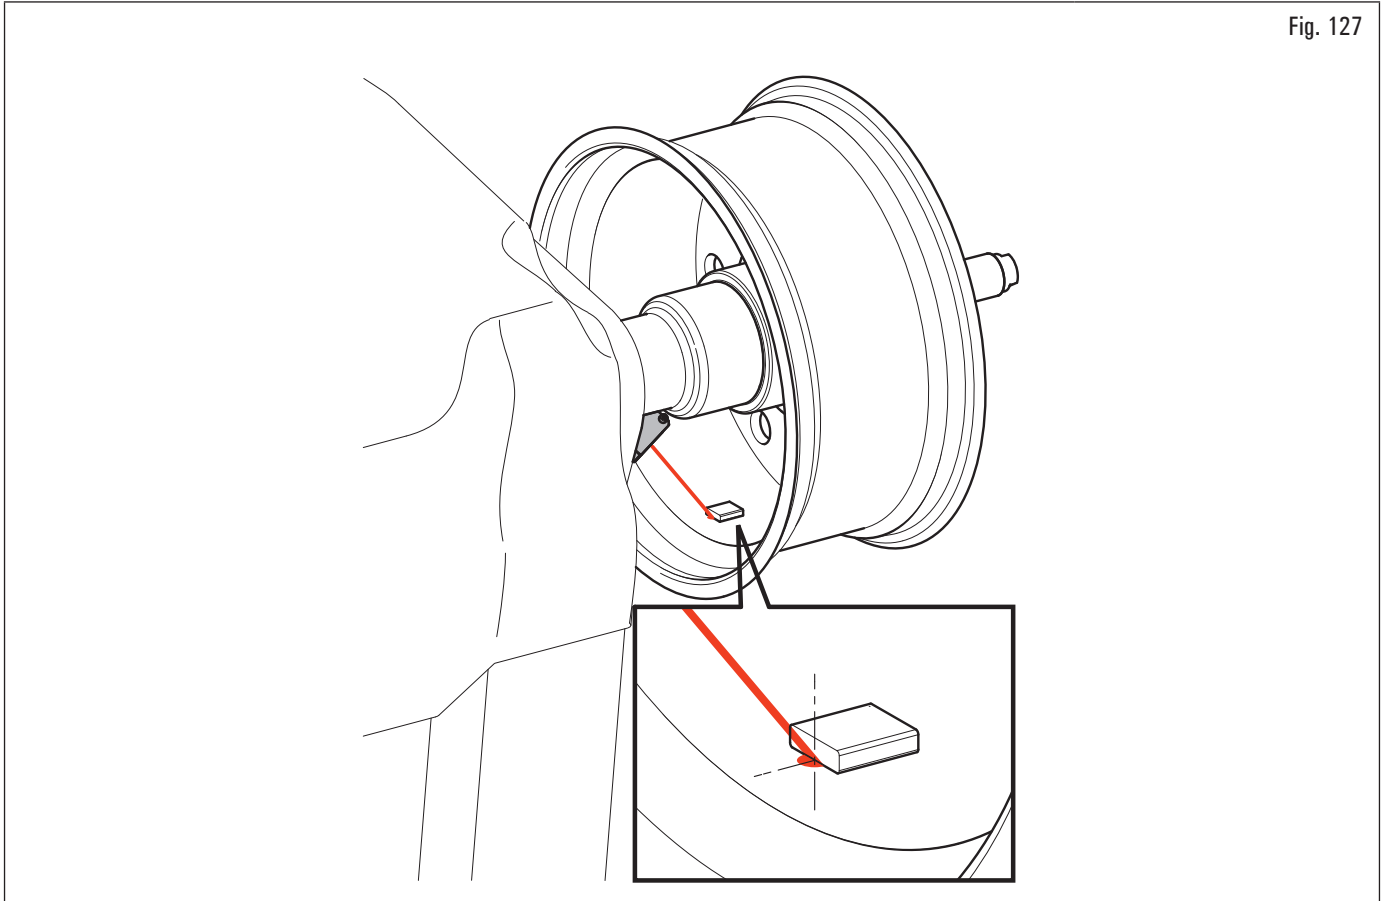

Fig. 127
! The adhesive weight has to be applied from the point highlighted by the pointer towards the inside of the rim, and its centre line must be right by the same pointer (see Fig. 127).
3. press the  push button to perform the recalculation of the value of the weight to be fitted in the new set position. The screen page in (Fig. 127) is displayed again with the updated values;
4. in case the operator wants to modify the weight fitting point "wheel outer side", simply press the push button (Fig. 127 ref. 2). The wheel, the laser and the screen page are preset for the application of such weight.